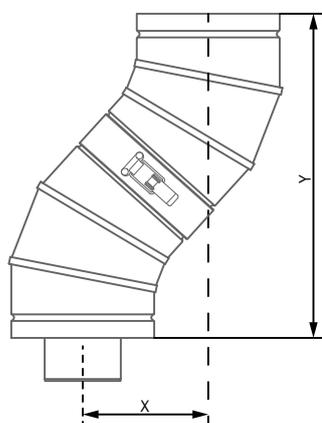
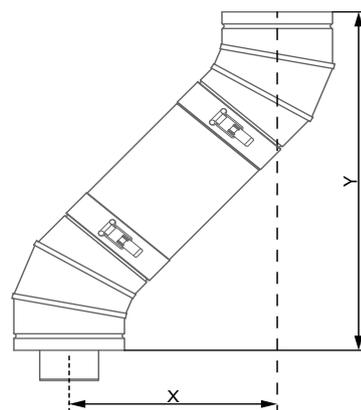
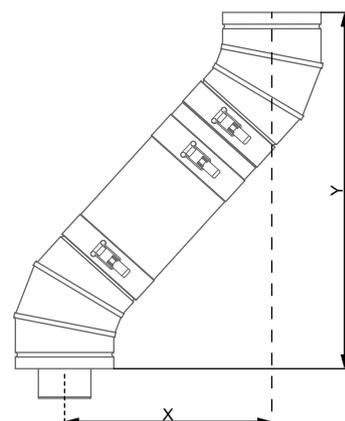
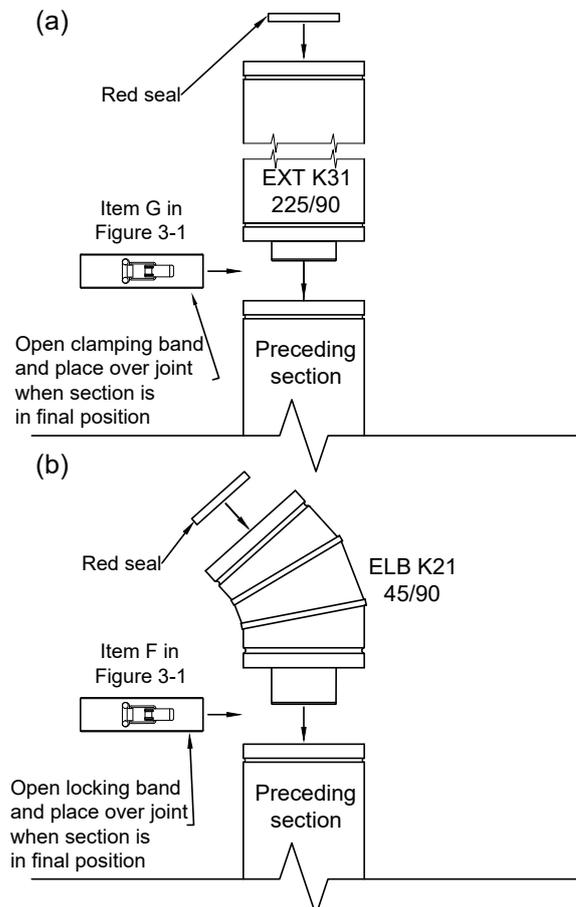

Figure 2-2: Elbows directly connected
Figure 2-3: Elbows connected to fixed extension
Figure 2-4: Elbows connected to adjustable extension
Figure 4-4: Fitting a fixed extension or elbow
The elbows may be connected together or used individually to connect to additional extensions to form offsets as shown in Figure 2-2 & Table 2-1, Figure 2-3 & Table 2-2 and Figure 2-4 & Table 2-3.
- Refer to Figure 4-4 (a) for guidance and Figure 1-1 for a representation of the fixed extensions available for this flue system.
Refer to Figure 4-4 (b) for guidance and Figures 2-2 to 2-4 for a representation of the elbows available for this flue system.